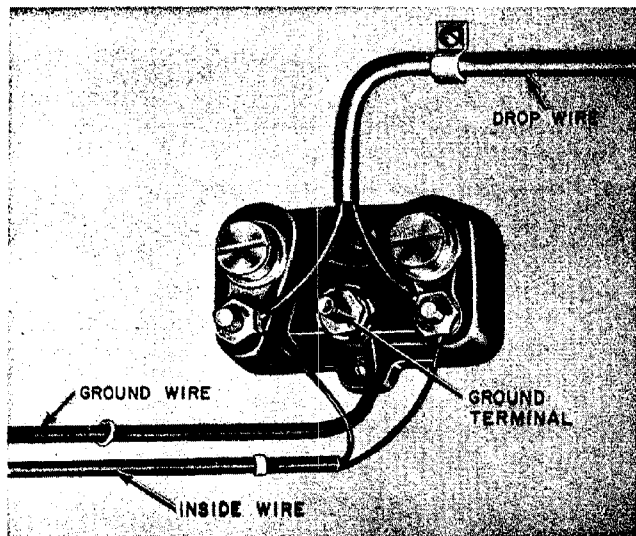

Fig. 4—123A1A Protector
4.03 Fig. 4 illustrates a typical installation when the 123A1A Protector cannot be installed on a metallic cold water pipe.